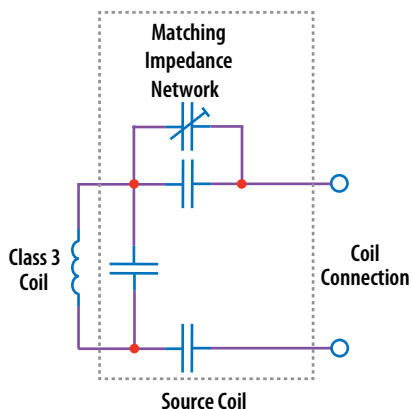

Figure 3: Diagram of the A4WP Class 3 Source Coil
3. Connect a LOW capacitance oscilloscope probe to the probe-hole J2 between the two eGaN FETs Q10_x and Q11_x and lean against the ground post as shown in Figure 3.
Figure 3 shows the schematic for the source coil which is Class 3 A4WP compliant. The matching network includes both series and shunt tuning. The matching network series tuning is differential to allow balanced connection and voltage reduction for the capacitors.
NOTE. When measuring the high frequency content switch-node (Source Coil Voltage), care must be taken to avoid long ground leads. An oscilloscope probe connection (preferred method) has been built into the board to simplify the measurement of the Source Coil Voltage (J2 and J3 as shown in Figure 3).